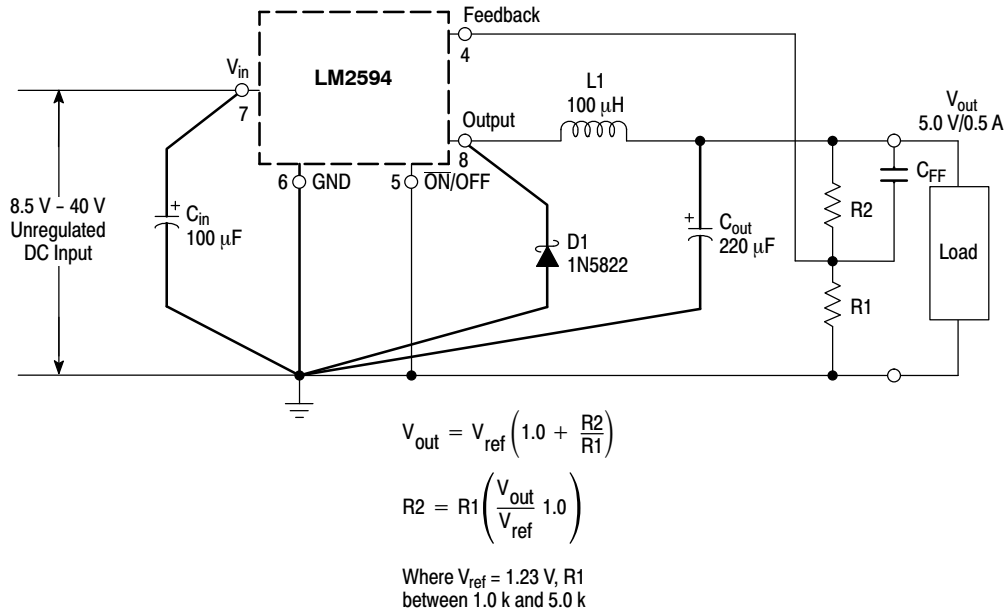

Figure 16. Typical Test Circuit
LM2594 (Note 1, Test Circuit Figure 16)
- External components such as the catch diode, inductor, input and output capacitors can affect switching regulator system performance. When the LM2594 is used as shown in the Figure 16 test circuit, system performance will be as shown in system parameters section.
TYPICAL PERFORMANCE CHARACTERISTICS (Circuit of Figure 16)
## TYPICAL PERFORMANCE CHARACTERISTICS (Circuit of Figure 16)
As in any switching regulator, the layout of the printed circuit board is very important. Rapidly switching currents associated with wiring inductance, stray capacitance and parasitic inductance of the printed circuit board traces can generate voltage transients which can generate electromagnetic interferences (EMI) and affect the desired operation. As indicated in the Figure 16, to minimize inductance and ground loops, the length of the leads indicated by heavy lines should be kept as short as possible.